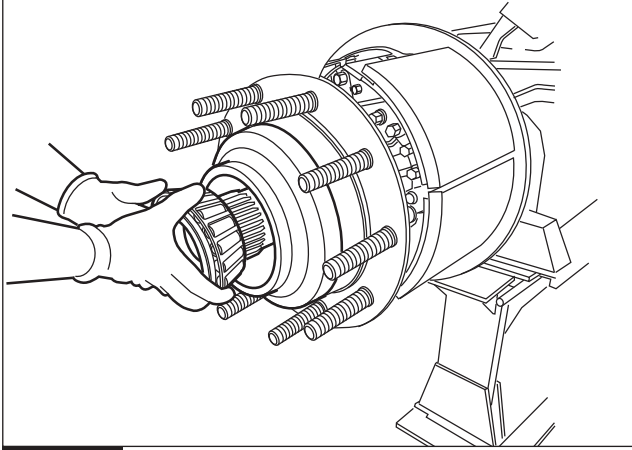

Fig. 2.12
4. Remove the external wheel bearing. Fig. 2.12